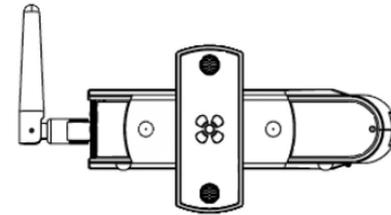

Figure 1: Device Stand at 90 Degree Angle
4. **Mounting:** When this device is placed upright with the aid of the stand, fix the stand at a 90-degree angle to the device. Otherwise, the device may tip over. Refer to Figure 1.